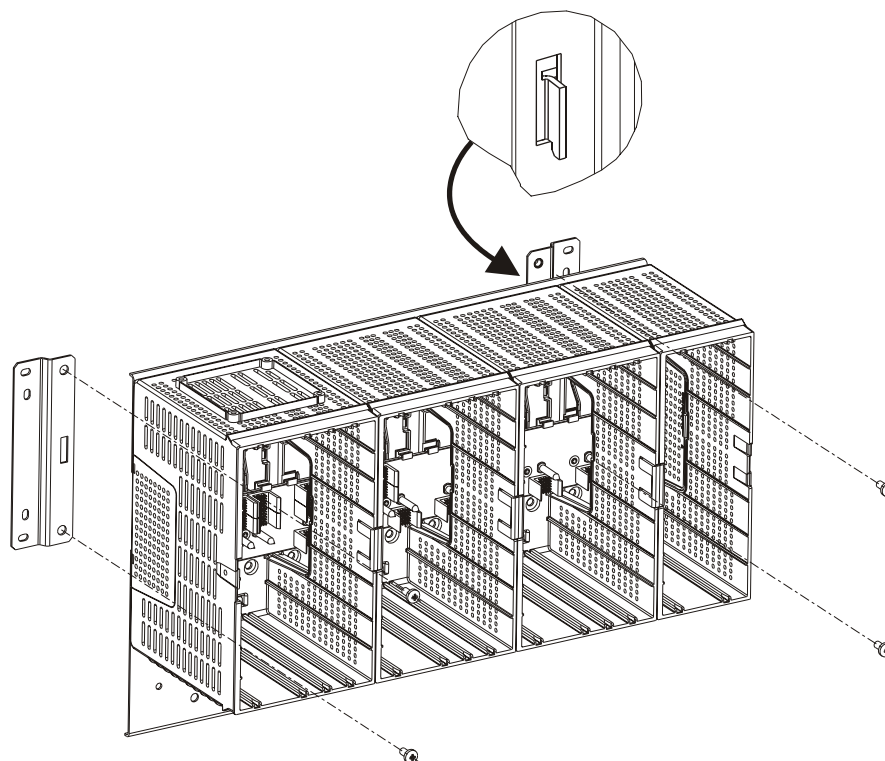

Figure 2-8 RTU Metal Chassis Installation
- 4) Hang the metal chassis on brackets so that the 2 teeth of the metal chassis hook onto the groove of the brackets. (See Figure 2-8.)